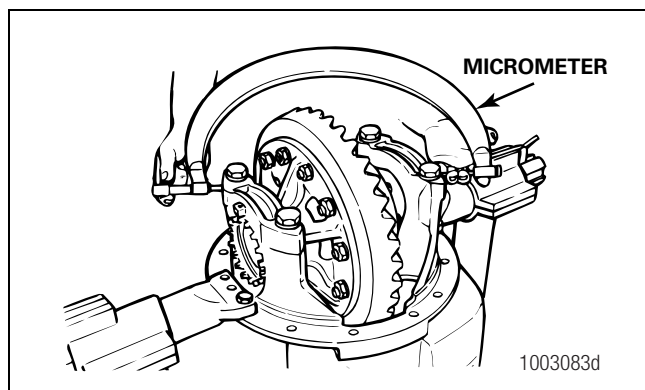

Figure 5.55
2. Use a micrometer to measure distance X or Y between the opposite surfaces of the bearing caps. Figure 5.54 and Figure 5.55. Record the measurement.